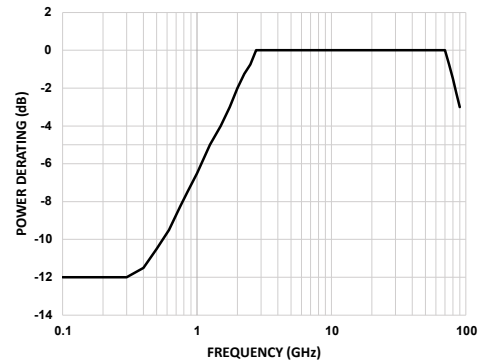
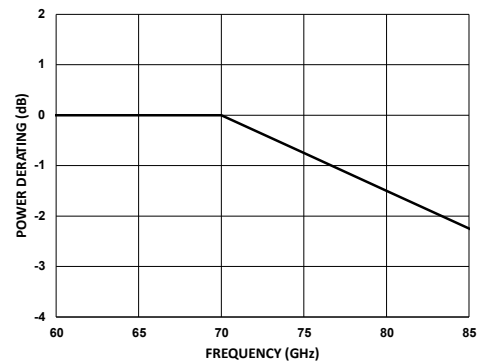

Figure 2. Power Derating vs. Frequency, Low Frequency Detail, T_{CASE} = 85°C
Figure 3. Power Derating vs. Frequency, High Frequency Detail, T_{CASE} = 85°C
² For power derating over frequency, see Figure 2 and Figure 3.
- For power derating over frequency, see Figure 2 and Figure 3.